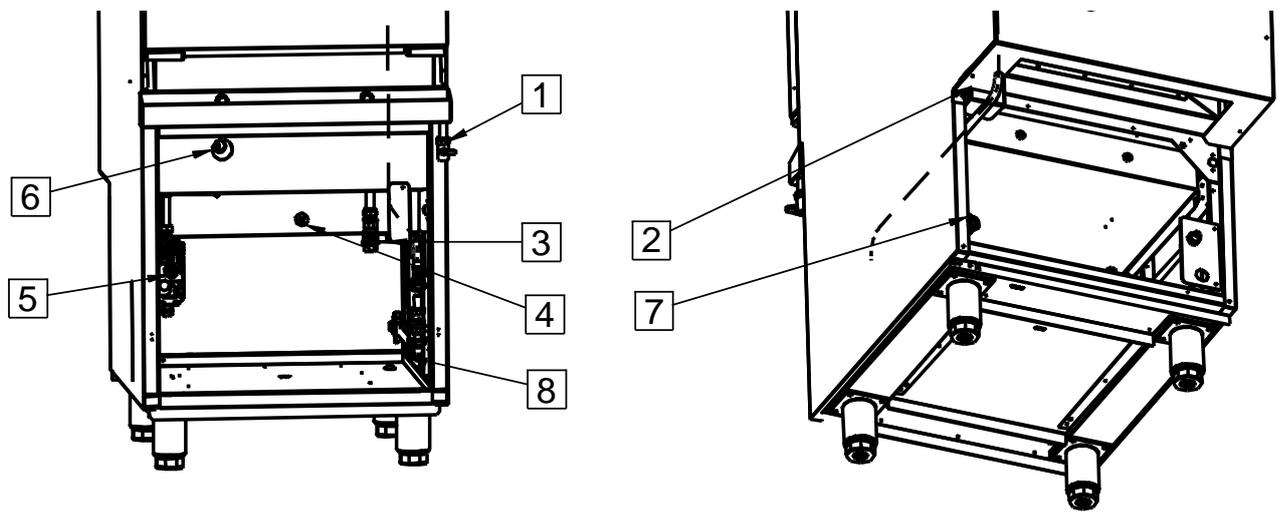

Fig. 3
Note: Should the safety cut-out thermostat (2) operate during normal use the unit will shut down. To re-light the unit re-set the safety cut-out thermostat by depressing the red re-set button (2). The re-set button is located behind the lower compartment door at the rear of the appliance (see Fig. 3).